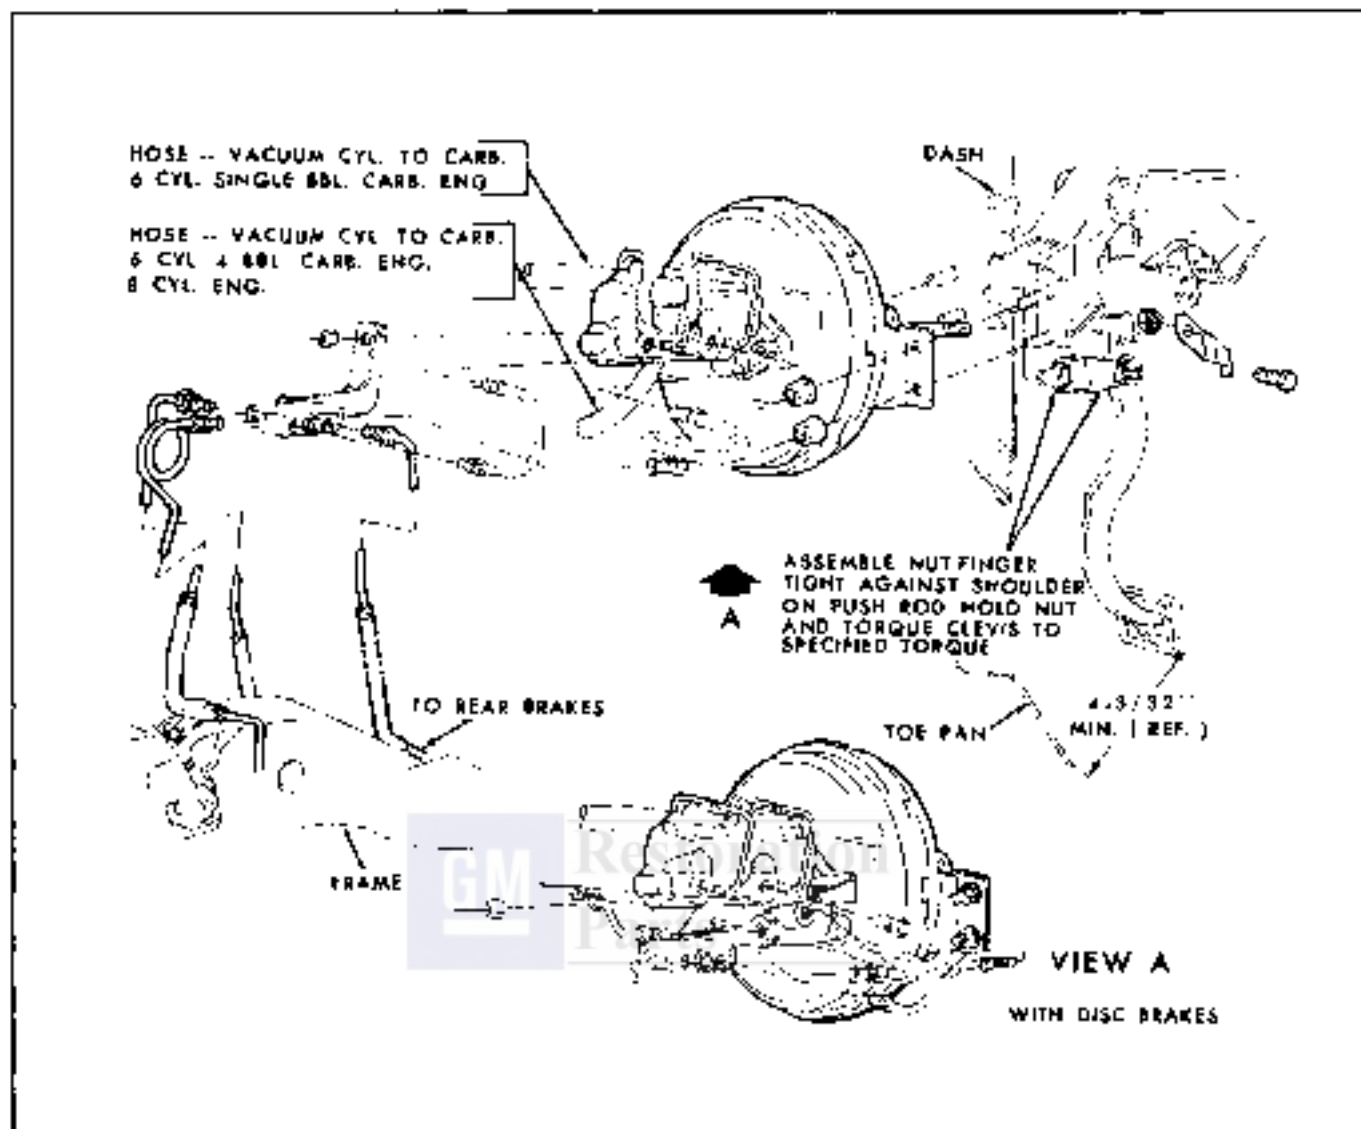

Fig. 5A-3 Front Power Brake System
1. Disconnect vacuum hose at vacuum check valve. Plug hose and cover valve opening to exclude dust, dirt, etc. (Fig 5A-1, 5A-2, 5A-3).